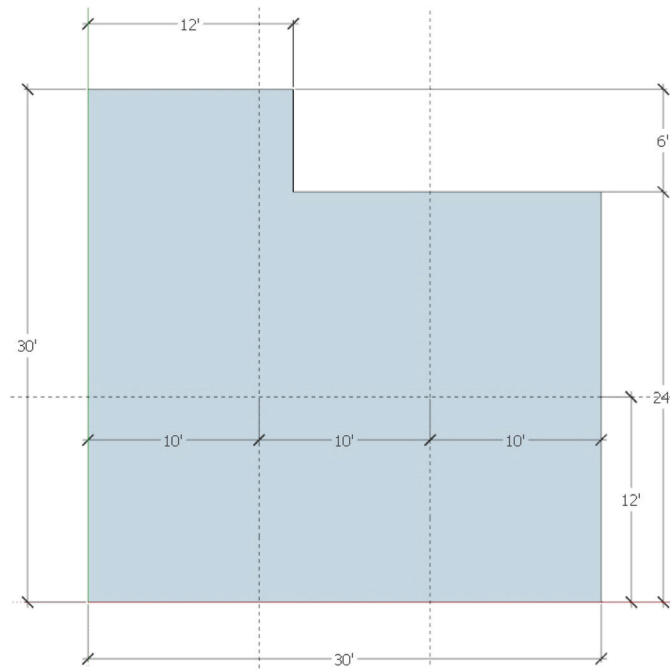

Figure 10.19 Pier Center Guideline.
10. Now you need to add guides for the centerlines of the piers along our first guide. Press T for Tape Measure Tool and select the edge on the left (the 30' vertical edge) and offset to the right and type 10' in the Measurement Box and hit enter. Create the next guide by offsetting this new guide by another 10'. You should now have a grid as shown in Figure 10.19.